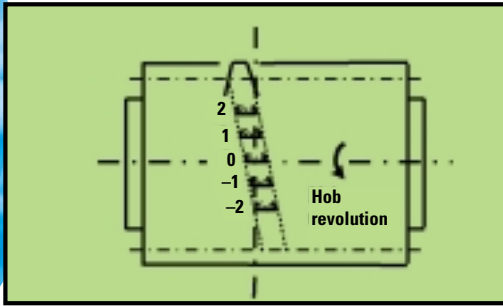

Figure 7—Definition of number given to each hob tooth.
**Basic calculation of trace of a point on cutting edge.** The number given to each hob tooth is defined as shown in Figure 7. The hob tooth that generates the center of the work gear's tooth groove is called tooth No. 0, those acting before tooth No. 0 have a minus sign, and those acting after have a plus sign. Here, the side cutting edge located on the left side of the hob tooth, as seen in Figure 1, is called the left edge and the side edge on the right side is called the right edge.